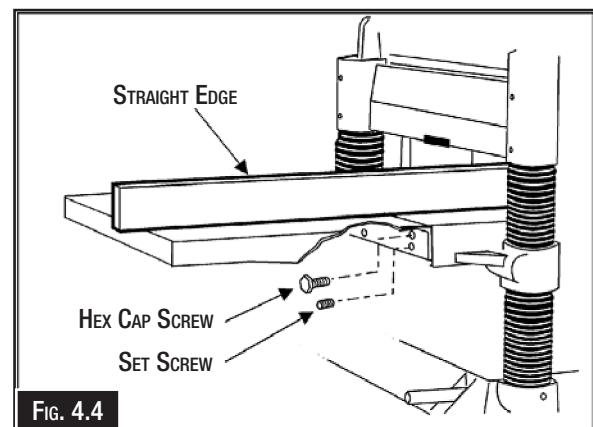

FIG. 4.4
1. Mount a cast iron table to the edge of the main table with three M8 x 25 hex cap screws (Fig 4.4). Do not fully tighten yet.